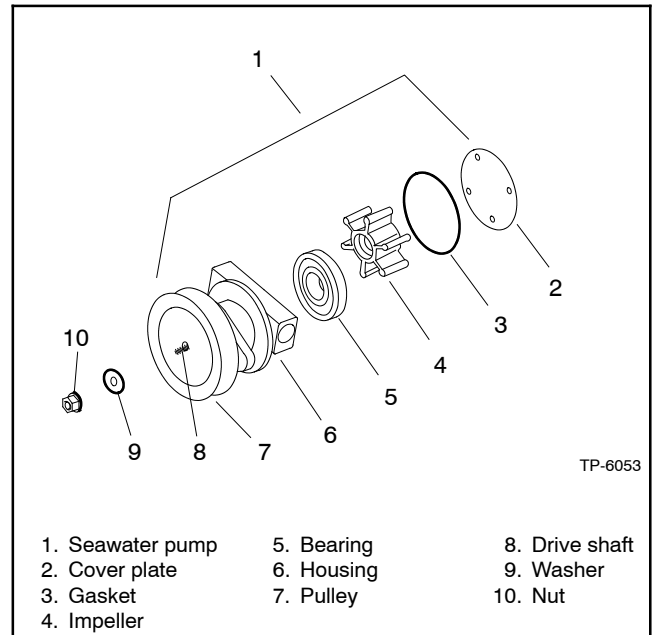

Figure 3-2 Seawater Pump, Typical
2. Remove the seawater pump cover plate. See Figure 3-2.